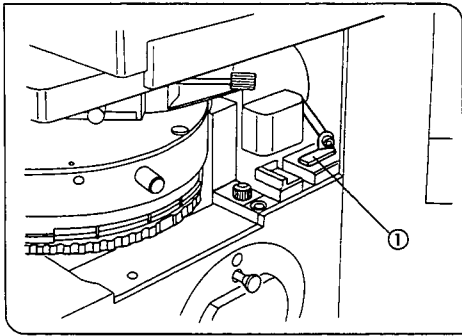

Fig. 19
2 Centering the Field Iris Diaphragm (Figs. 19, 20)
2. Turn the fluorescence vertical illuminator's field iris diaphragm lever ① counterclockwise to stop down the field iris diaphragm until the diaphragm image is inside the perimeter of the field of view. (Fig. 19)
3. While turning the field iris diaphragm lever ① clockwise to gradually open the field iris diaphragm, turn the two field iris diaphragm centering knobs ② on the fluorescence vertical illuminator to adjust so that the image of the diaphragm is centered in the field of view. (This is the state where the field iris diaphragm image is inscribed in the field of view.) (Figs. 19, 20)